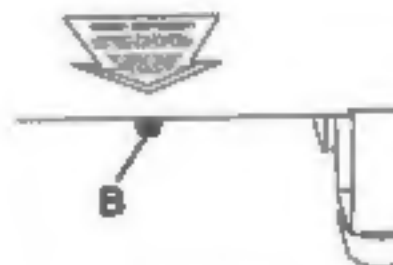

FIGURE 4
DRAIN VALVE (A) FIG.4
C. Turn  the drain valve (B) Fig. 4 clockwise, opening it fully, to prevent air pressure build-up in the tank.
10. Drain water from air tank. Turn drain valve (B) Fig. 4, clockwise to open.
5. Drain water from air tank. Turn drain valve (B) Fig. 4, clockwise, to open.